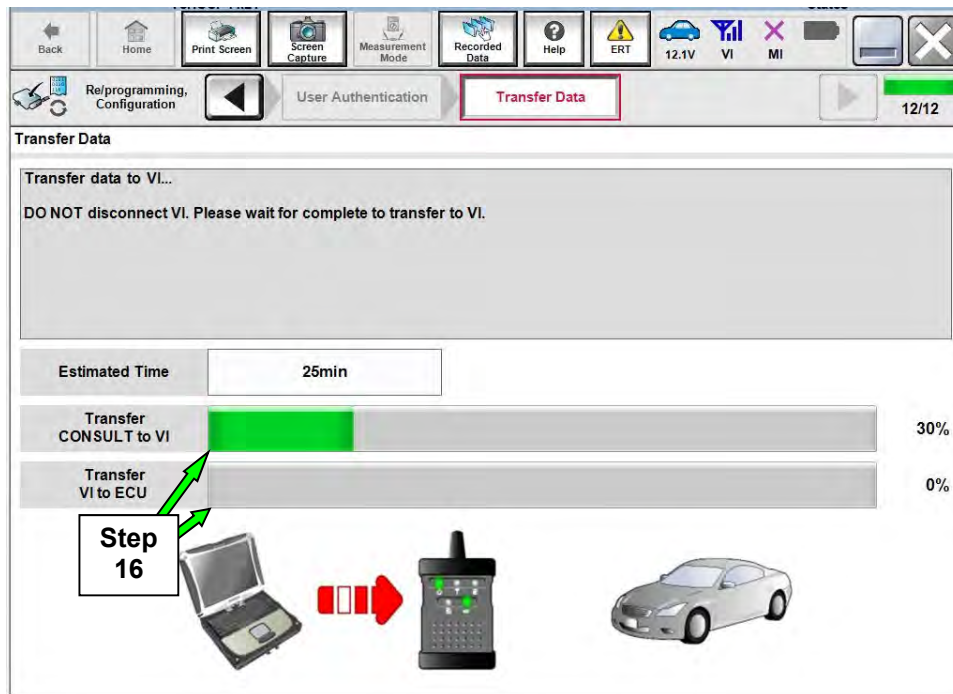
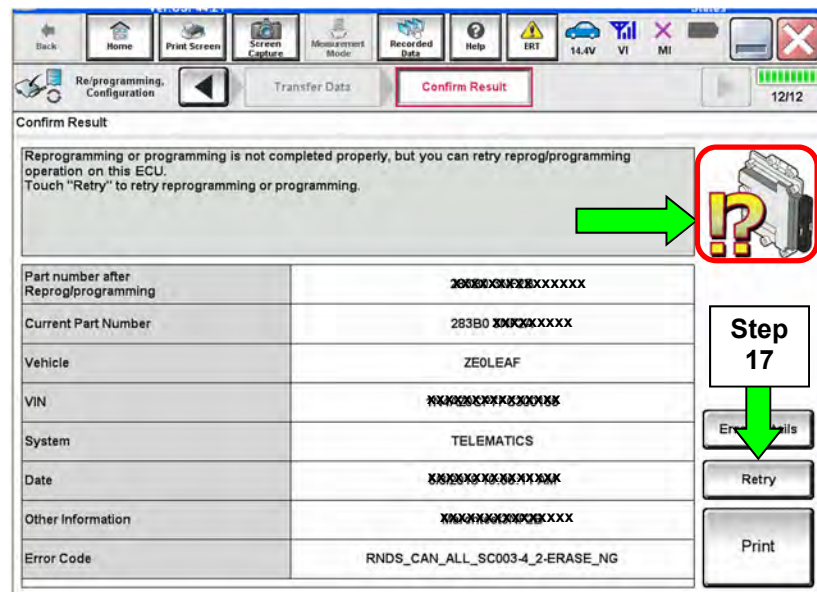

Figure 25
Figure 26
16. The progress bar (Figure 25) should go to approximately 10%, and then the error message in Figure 26 should appear. This is normal.
17. When the screen in Figure 26 displays, verify the following, and then select **Retry**.